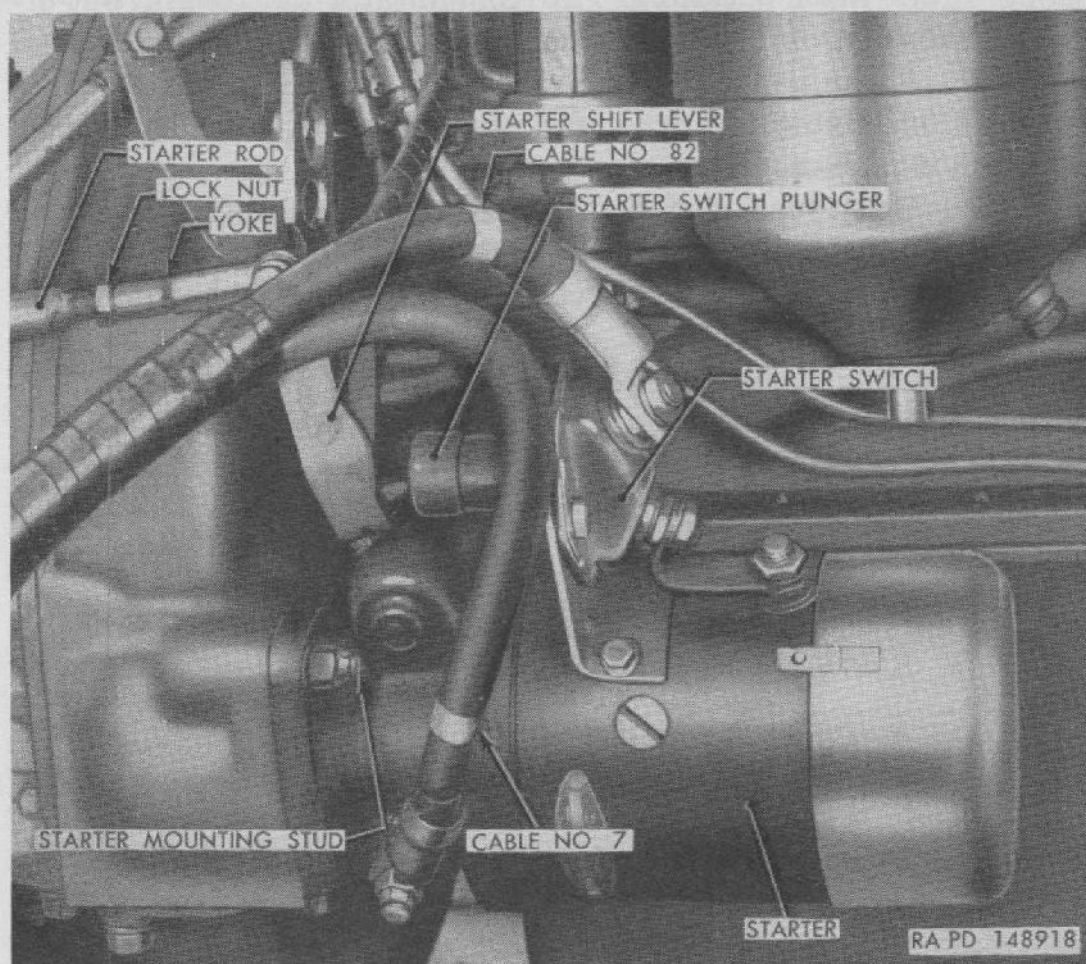

Figure 73. Starter installed on engine.
b. STARTER. Starter is a four-pole, four-brush unit with three field coils connected in series and one in shunt. The series field windings and insulated brushes are grounded to commutator end head through a capacitor (condenser). Starter is equipped with overrunning clutch type drive, and is mounted on right-hand side of engine flywheel housing (fig. 73). Starter switch is mounted on top of starter field frame; starter switch terminal is connected
a. **STARTER REMOVAL** (fig. 73).
- (1) Remove right-hand fender (par. 277). Disconnect engine wiring harness at engine connector (at side of generator-regulator on dash) to prevent a short circuit when cable is removed from starter switch. Use spanner wrench 41-W-3249-900 for loosening connector nut.
c. STARTER INSTALLATION (fig. 73).
- (1) Position starter on flywheel housing, with holes in drive end head over starter mounting studs. Install self-locking nut on each stud and tighten to 48-64 pound-feet torque.
- (2) Connect ground cable (No. 7) to stud on starter drive end head. Connect starter cable (No. 82) to starter switch terminal. Tighten terminal nuts firmly; then coat both cable ends and terminals with waterproofing material.
- (3) Connect engine wiring harness at engine connector (at side of generator-regulator).
- (4) Connect starter rod yoke to starter shift lever; use a flat washer on each side of shift lever and secure with clevis pin and cotter pin.
- (5) Check starter linkage adjustment and correct if necessary (*d* below). Install right-hand fender (par. 277).
e. **STARTER SWITCH REPLACEMENT** (fig. 73).
- (1) *Removal.* Remove right-hand fender (par. 277). Disconnect engine wiring harness at engine connector (at side of generator-regulator). Disconnect starter cable (No. 82) from switch upper terminal. Remove nuts securing connector to switch terminal and field terminal. Remove connector. Remove nuts and lock washers from two bolts attaching switch to bracket, remove bolts, then remove switch from bracket.
- (2) *Installation.* Install switch in bracket and secure with two bolts, lock washers, and nuts. Scrape old waterproofing material off ends of connector. Install connector on switch and field terminals and secure with lock washers and nuts. Connect starter cable (No. 82) to switch upper terminal. Coat all terminals, nuts, and connector with waterproofing material. Connect wiring harness at engine connector (at side of generator-regulator). Install right-hand fender (par. 277).